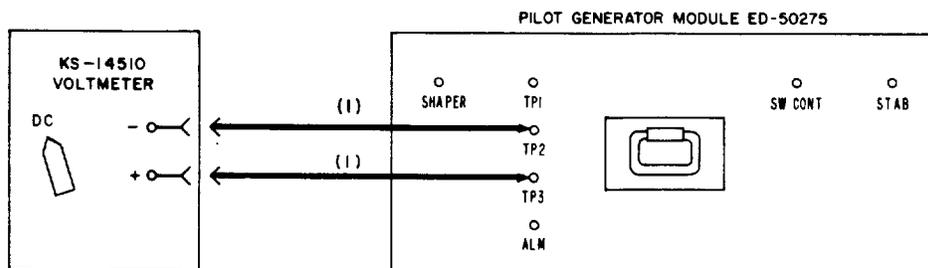

Fig. 6—104.08-kHz Switch Control Output Measurement
4	Adjust the STAB control at upper right on the right-hand (standby) pilot generator module ED-50275 (Fig. 6) under test.
17	Measure the voltage at test points TP2 and TP3 on the left-hand (regular) pilot generator module ED-50275 under test [patch (1), Fig. 6]. Requirement: 8.3 \pm 0.1 volts dc
- 22 Measure the voltage at test points TP2 and TP3 on the right-hand (standby) pilot generator module ED-50275 under test [patch (1), Fig. 6].
17	Measure the voltage at test points TP2 and TP3 on the left-hand (regular) pilot generator module ED-50275 under test [patch (1), Fig. 6].
22	Measure the voltage at test points TP2 and TP3 on the right-hand (standby) pilot generator module ED-50275 under test [patch (1), Fig. 6].